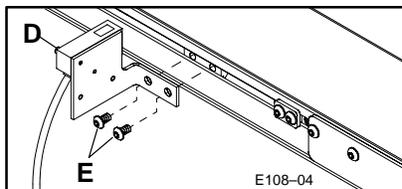

Figure 4: Photo-Eye Attachment Detail
- b. Refer to Figure 4 and attach the Photo-Eye with Mounting Bracket to the Drop-in T-bar, using the M6 x 10 mm Button Head Cap Screws (E). Tighten Screws with the 4 mm Hex Key Wrench (I) provided.